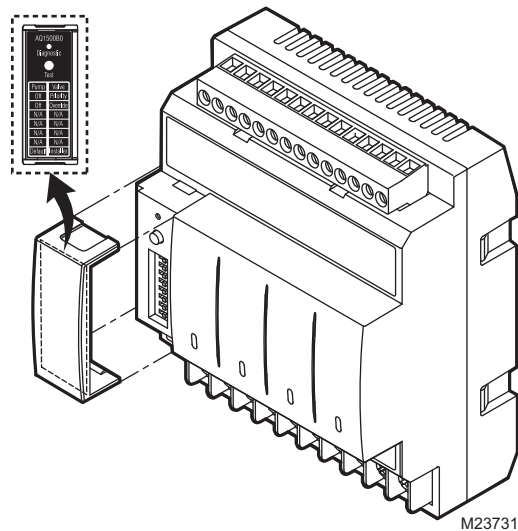

Fig. 15 Location of concealed DIP switches for AQ1500B0 Control Module and AQ155 / AQ157 Zoning Modules
Operation of the AQ250's Control Module is set by the positions of its DIP switches, which are located behind the blank cover in the left most section of the Control Module (beside the section labeled "ZR"). See Figure 15 for location of these DIP switches.
2. The AQ1554P2 (pump Zoning Module) and AQ1574V4 (valves with end switches Zoning Module) both have DIP switches in 8-switch "banks" and are concealed behind snap-on covers as shown in Figure 15. A chart of the different settings for each DIP switch is attached to the inside of the DIP switch covers. More detailed explanations for these DIP switch settings, including the pre-set factory defaults for each, is shown in Table 3.
2. Remove the AQ1500B0 Control Module's DIP switch cover (refer to Figure 15 for the DIP switch cover location)
1. With the front cover of the AQ250 Control Panel removed and set aside, remove the AQ Zoning Module DIP switch cover (refer to Figure 15 for the DIP switch cover location)